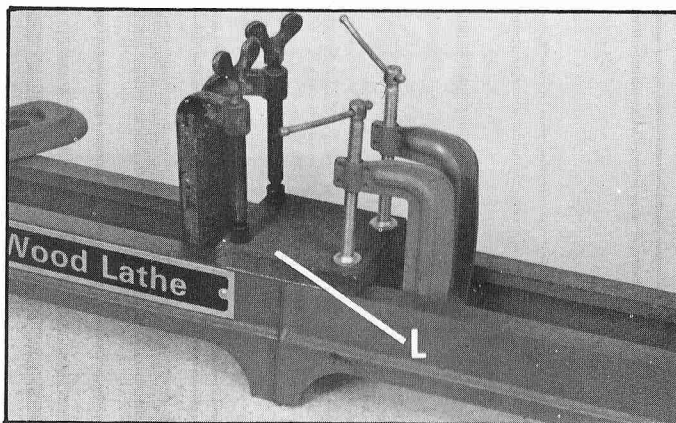

Fig. 32
7. Place the gage block (L) Fig. 32, over the joint between the headstock section and the accessory section and clamp it to the bed ways with four C-clamps, as shown. Place the lathe on its side and tighten the center 3/8"-18 hex nut. Then tighten the two 5/16"-18 hex nuts.